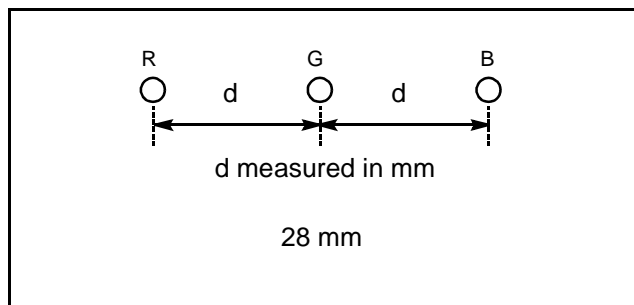

Figure 40. Centering magnets adjustment.
8. Adjust blue centering magnets until the pattern center is at the appropriate distance as indicated on figure 40.
11. Adjust red centering magnets until the pattern center is at the appropriate distance as indicated on figure 40.